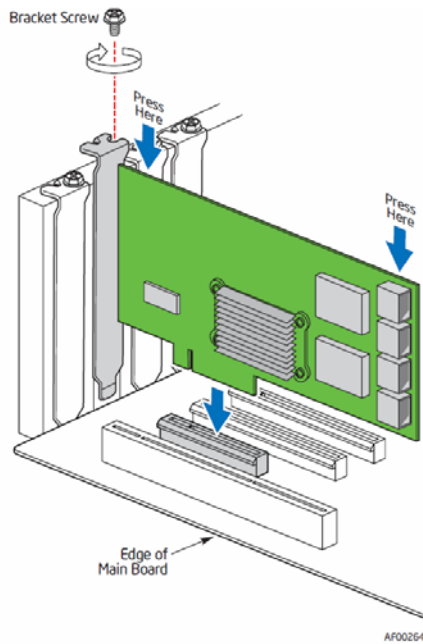

Figure 3. Inserting the Intel® RAID Controller SRCASPH16I into a PCI Express\* Slot
4. Press down gently but firmly to ensure that the card is properly seated in the slot, as shown in Figure 3. Secure the bracket to the computer chassis.